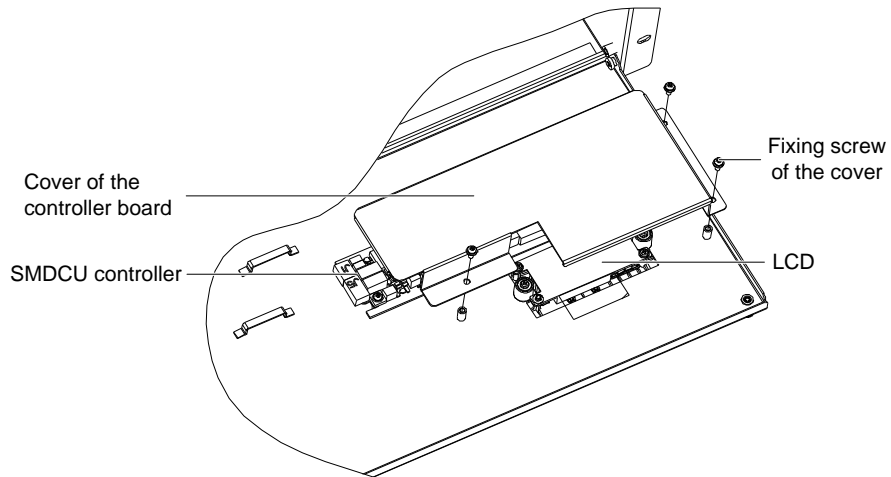

Figure 5-1 Opening the cover plate
1. Loosen the three fixing bolts of the controller, and open the cover plate, as shown in Figure 5-1.